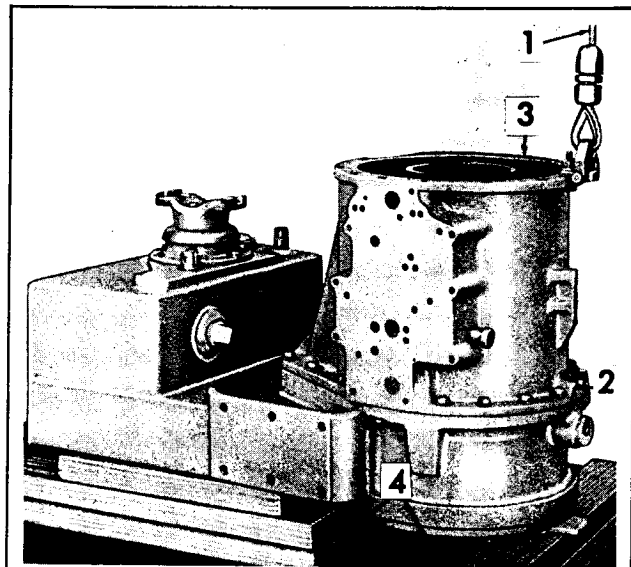

Fig. 102 — Positioning Transmission on Front Surface
18. First, attach a lifting sling (Fig. 102) to the